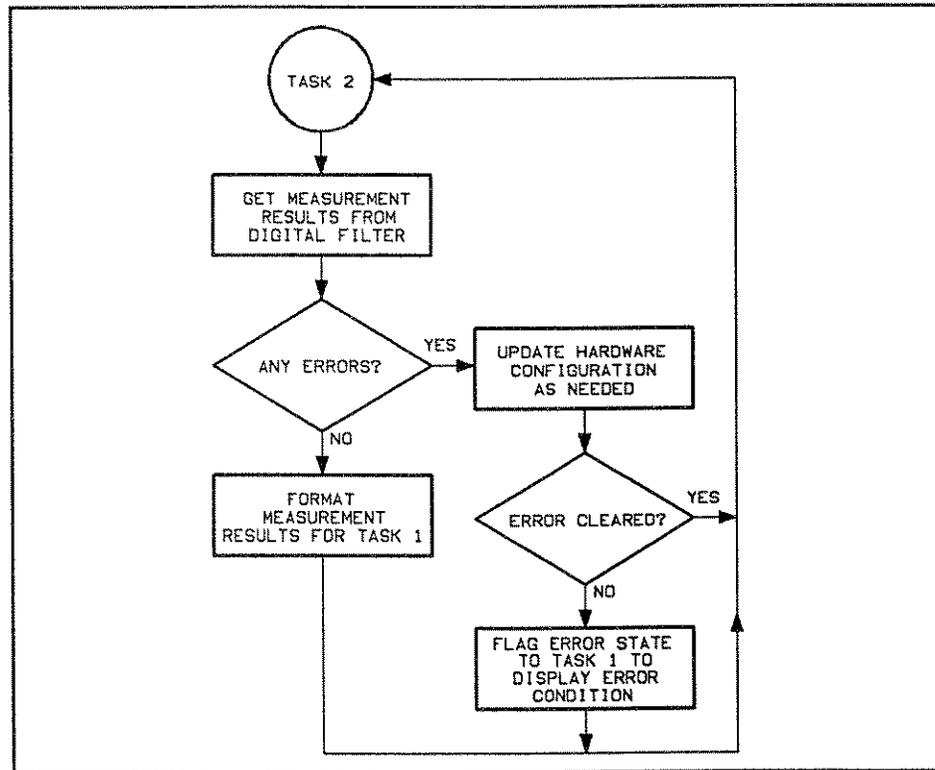

Figure 8-4. Task 2 Flowchart
3. The task 2 routine primarily handles the mathematical calculations for the required measurement results and sets error flags when required. A flowchart of the Task 2 routine is shown in Figure 8-4.